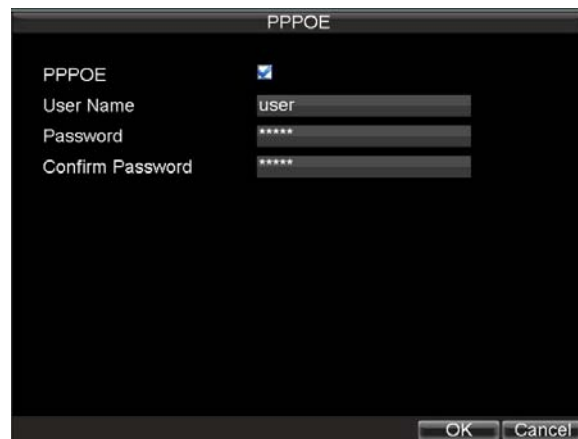

Figure 5. PPPoE Settings
4. Click the *Set* button next to **PPPOE** to enter PPPoE Settings menu, shown in Figure 5.